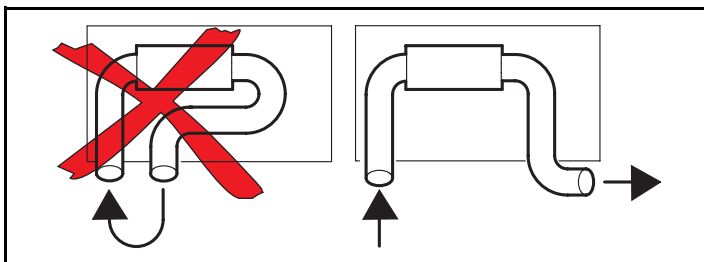

Figure 8. Hot air inlet and hot air outlet (recirculation mode)
- Air short circuit between the heater's air inlet and the heater's air outlet (Figure 8).